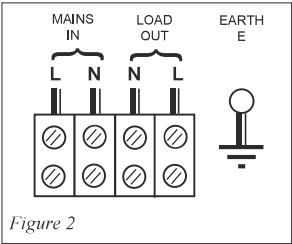

Figure 2
- v. Using a fused double pole switch for the mains input, wire the unit as shown in Figure 2. **IMPORTANT** Use cable of crossectional area not less than 1.0sq. mm and fuse at 5A. The use of 20mm conduit is recommended (use male thread adaptor with lock-ring e.g. Ega type EMA 1ZM). Alternatively fit a 20mm nylon compression cable gland to provide strain relief.